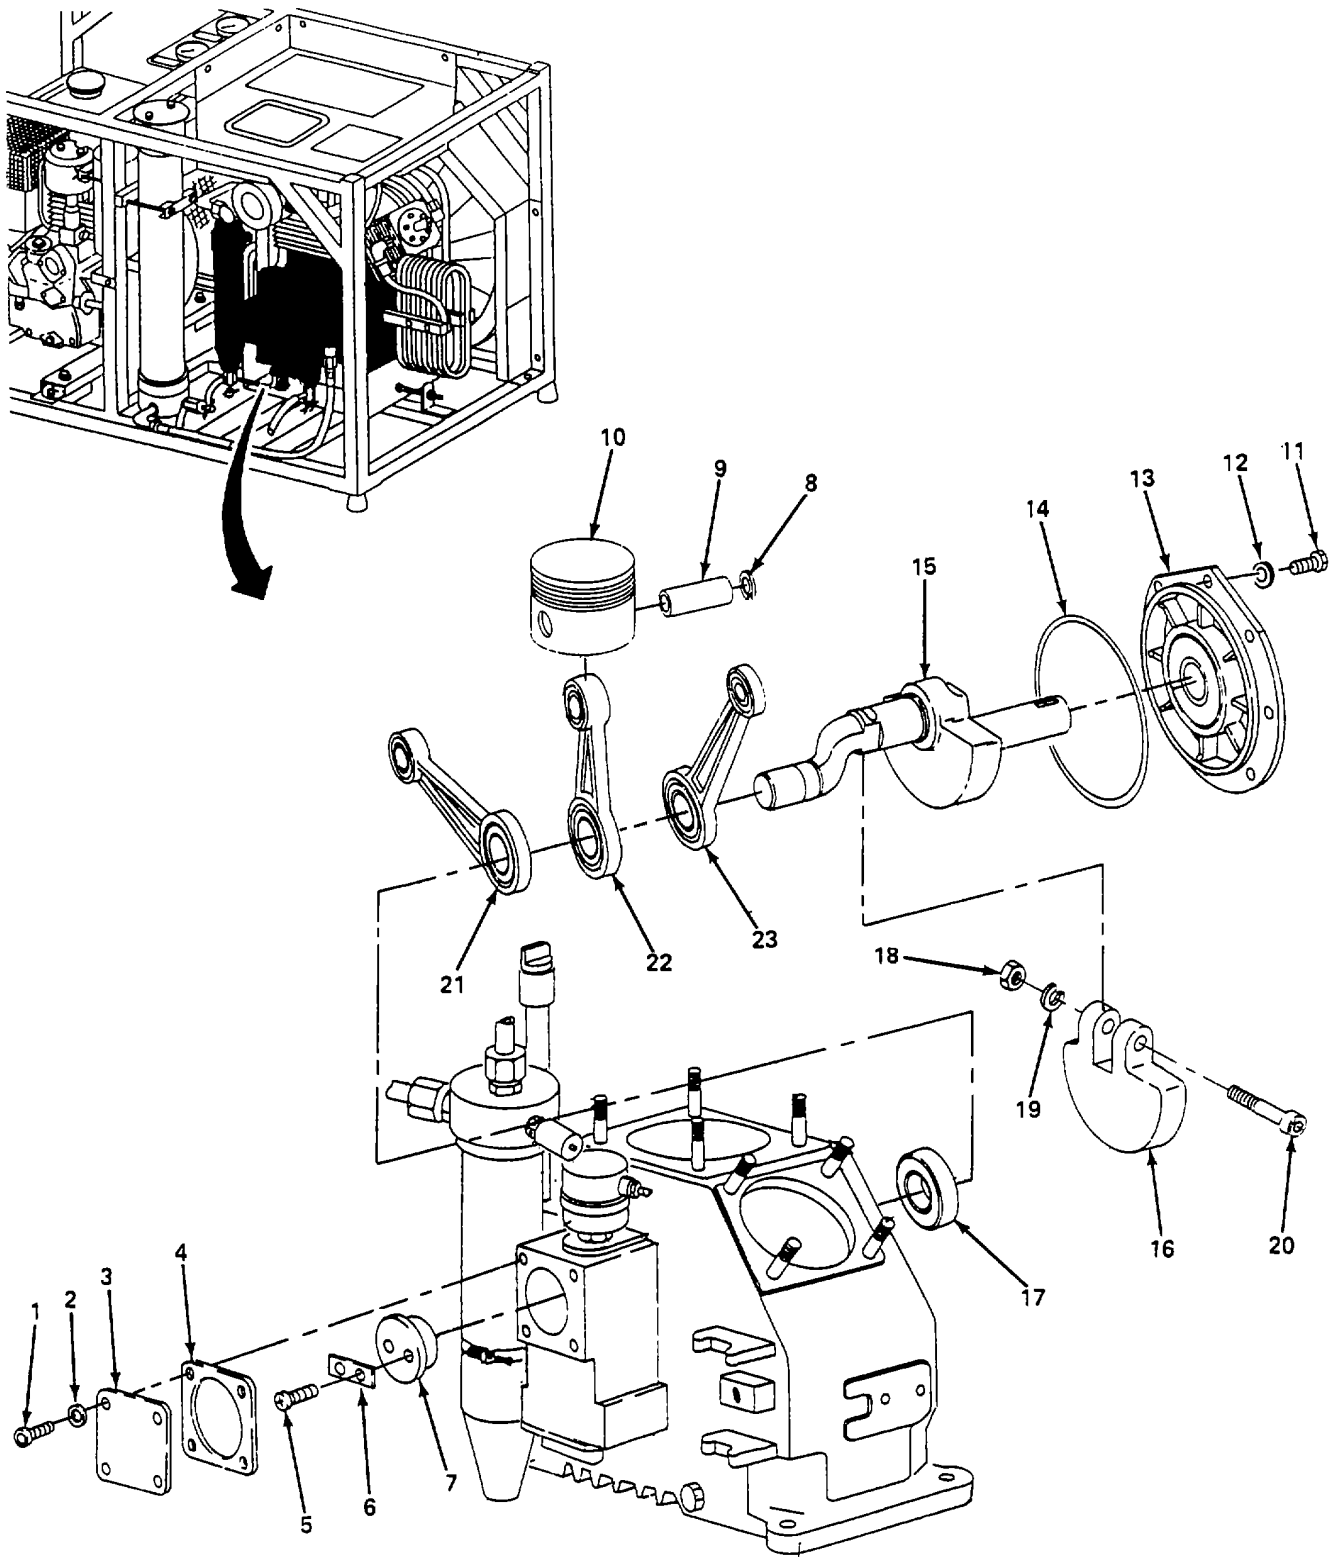

Figure 6-2. First Stage Piston and Piston Rod Assembly, Replace.
a. Replace. (figure 6-2)
- (1) Remove four screws (1), washers (2), plate (3), and gasket (4). Discard gasket (4).
- (2) Remove two screws (5), plate (6), and oil pump cam (7).
- (3) Remove two retaining rings (8), wrist pin (9), and piston (10). Discard retaining rings (8).
- (4) Remove second stage piston assembly (para 6-11).
- (5) Remove third stage crosshead assembly (para 6-13).